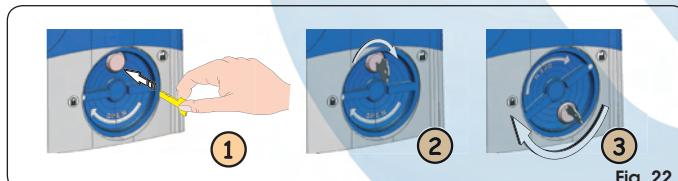

Fig. 22
1. Fit the supplied key in the lock, Fig. 22 Ref. ①, and turn it clockwise as shown in Fig. 22 Ref. ②.
2. Turn the release system clockwise by about 180°, as shown in Fig. 22 Ref. ③.